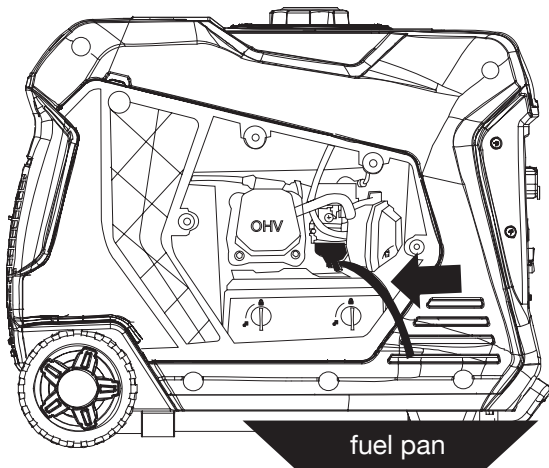

Figure 14: Fuel Drain Hose
2. Locate the clear plastic hose from the float that is extending towards the bottom of the inverter, pull those hose outside the body and place a suitable container under it to catch the drained fuel (see Figure 14).